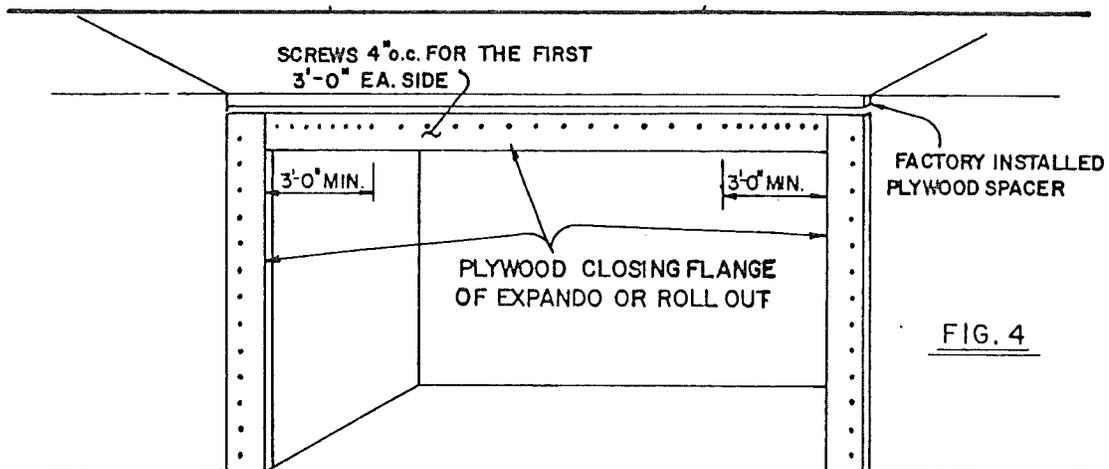

FIG. 4
9. Secure interior closing flange to main wall with 2½" #8 screws 8" on center. Cover flange with interior panel and trim (see fig. 4). For 24' expando see fig. no. 10.